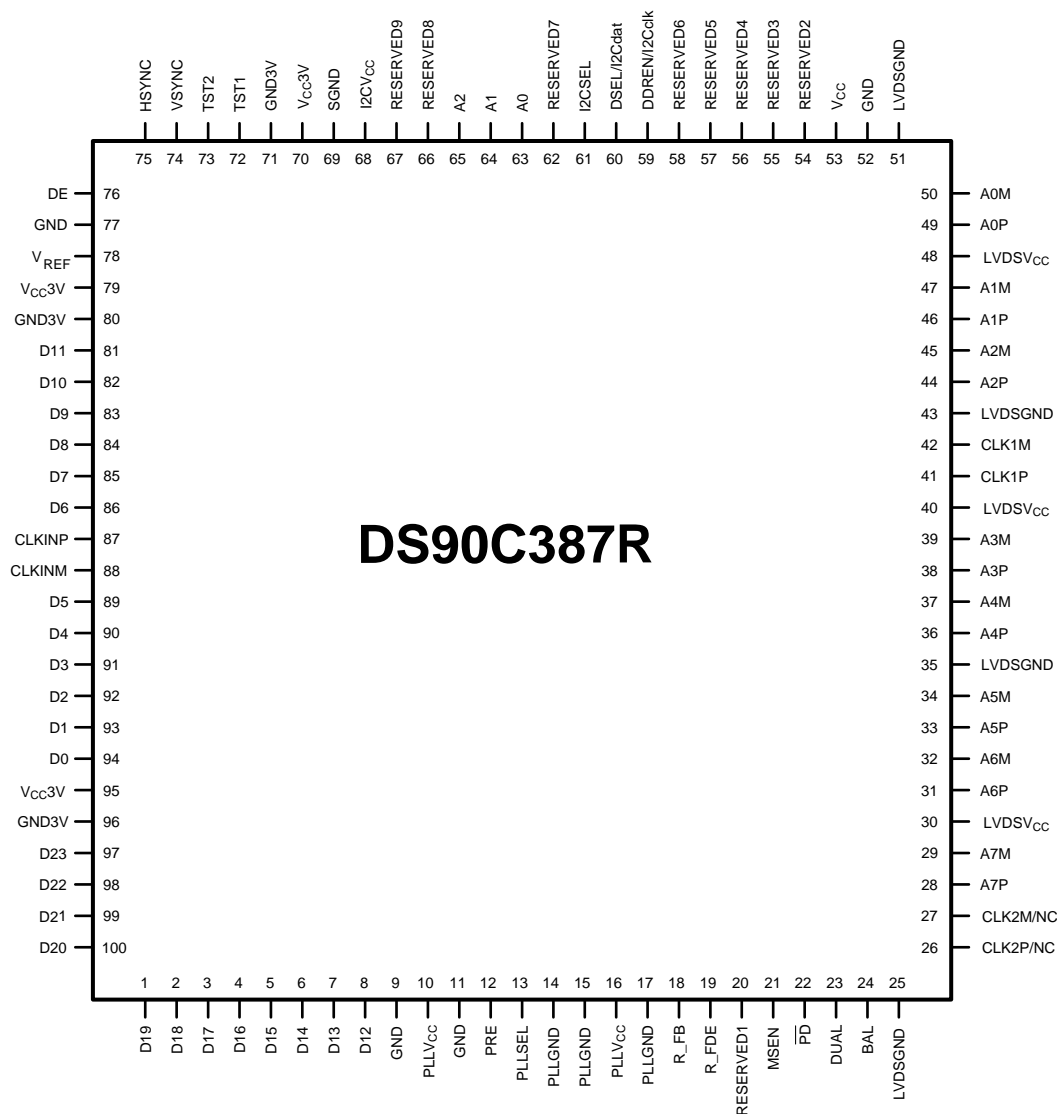

Figure 21. Transmitter-DS90C387R
- Corrected the pin names in Figure 21 25